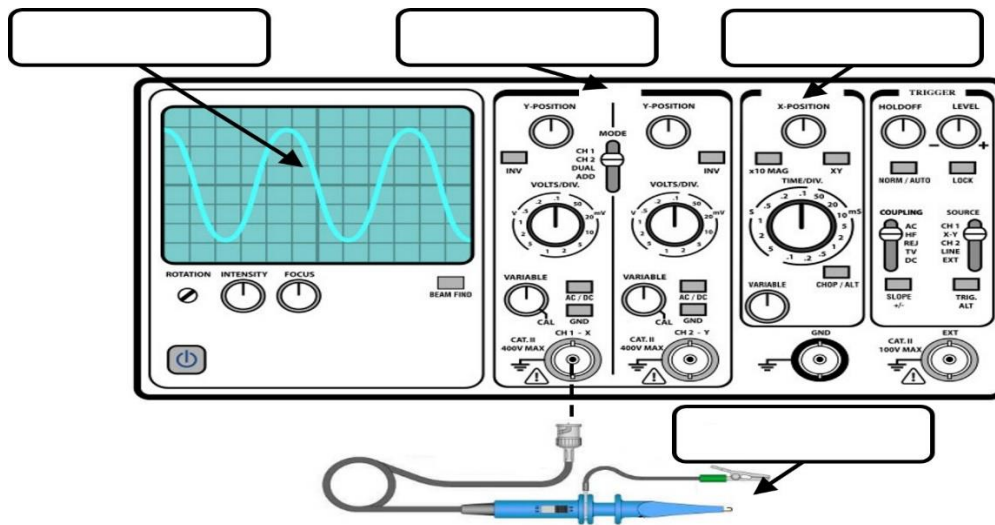

Figure 8: Oscilloscope
c) Label important features of the oscilloscope given in Figure 8.